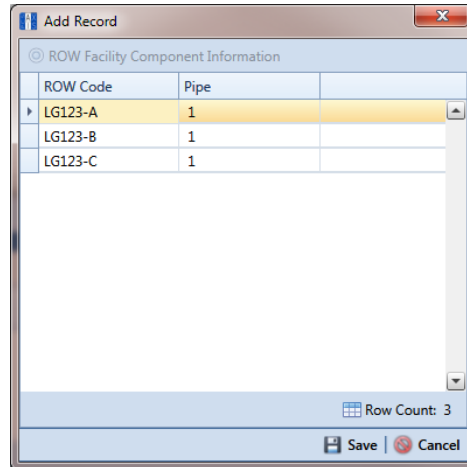

Figure 4-14. Add Record
- 6 Click  **Add** to open the *Add Record* dialog box (Figure 4-14).
- 7 Select the pipeline in the dialog box that you want to add an information record. For example, pipeline *IS-0767-01* is selected in Figure 4-14.
- 5 Click **Add** to open the *Add Record* dialog box (Figure 4-14).
- 6 Select the pipeline in the dialog box that you want to add an information record. For example, pipeline *IS-0767-01* is selected in Figure 4-14.